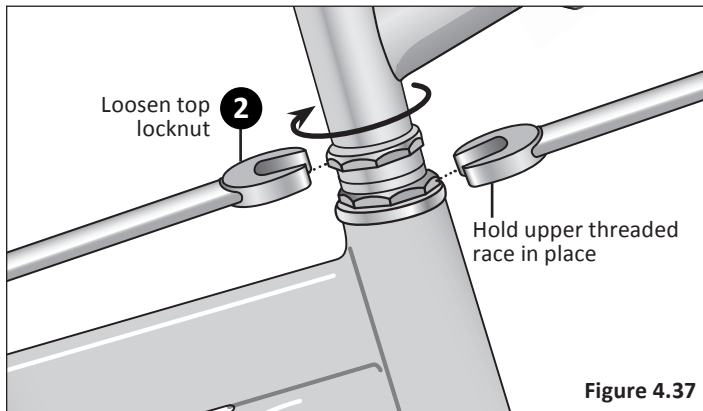

Figure 4.37
- 3 With the front wheel resting on the ground, use an adjustable, or headset wrench and hold the upper threaded race in place. **Figure 4.37**